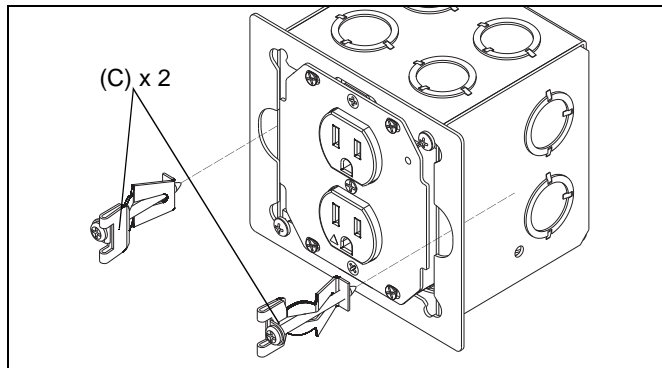

Figure 5
8. Install two clips (C) onto either side of EGX-SF2 housing. (See Figure 5)